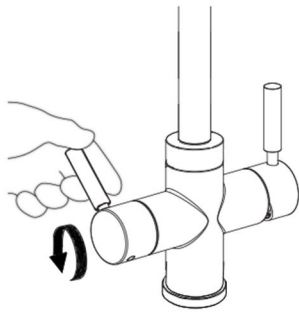

Fig 1.
- **Cold (filtered) water** – This is delivered when the left side handle is rotated backwards up to a maximum of apx. 45° (Fig 1).